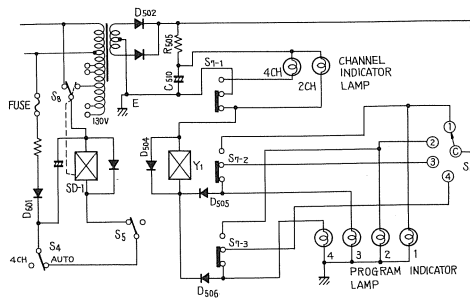

Fig. 8
1. When a 2-channel tape is pushed into the opening with the MODE switch set at AUTO, the microswitch S5 is closed by the channel selecting mechanism. With the S5 closed, the current rectified by the diode D601 activates the plunger SD-1, switching the channel selecting switch S7 over to 2 CH. side (Fig. 8).
2. During the operation of the plunger SD-1, microswitch S8 remains closed with about 42V (DC), preventing the plunger from getting heated.
3. The direct current rectified by diode D502 flows to the ground through the route of resistor R505 ~ lamp 2CH ~ S7-1 ~ Earth, causing the channel indicator lamp (2) to light.
4. The direct current, which has passed through diode D502, is applied to the program indicator lamp switch S6. When the switch S6 is set at ①, the program indicator lamp "1" lights; likewise, when the switch S6 is set at ②, the indicator lamp "2" lights.
5. If the switch S6 is set at ③, the current flows through the route of S7-2 ~ D505 ~ relay Y1, allowing the relay Y1 to operate, and the program indicator lamp "3" lights. The diode D506 prevents the reverse current from lighting the program indicator lamp "4."
6. If the switch S6 is set at ④, the current flows through the route of S7-3 ~ D506 ~ relay Y1, allowing the relay Y1 to operate, and the program indicator lamp "4" lights. The diode D505 prevents the reverse current from lighting the program indicator lamp "3."
NOTE: If the MODE switch is set at 4 CH., the switch S4 opens, deactivating the plunger SD-1 (Fig. 8). With the plunger deactivated, Model QT-2100 is placed on 4-channel stereo performance mode.